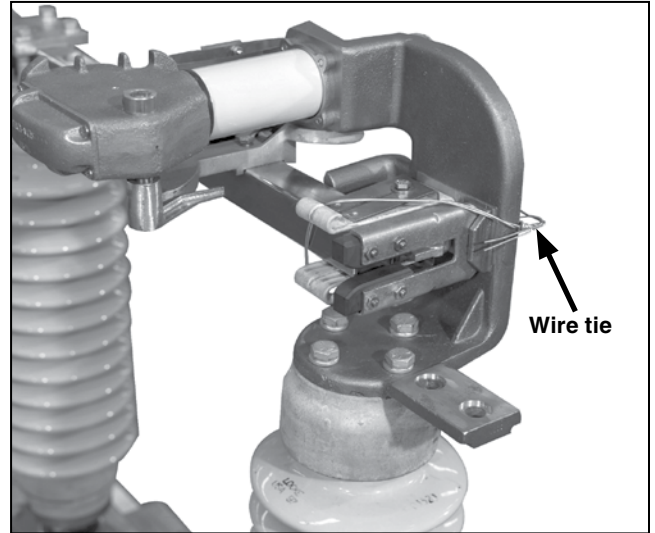

Figure 15. Tie the switch blade to the main contacts.
STEP 12. To minimize time-consuming final adjustments, make sure the switch is fully closed. Tie the switch blades to their stationary main contact assemblies using a wire tie. See Figure 15.